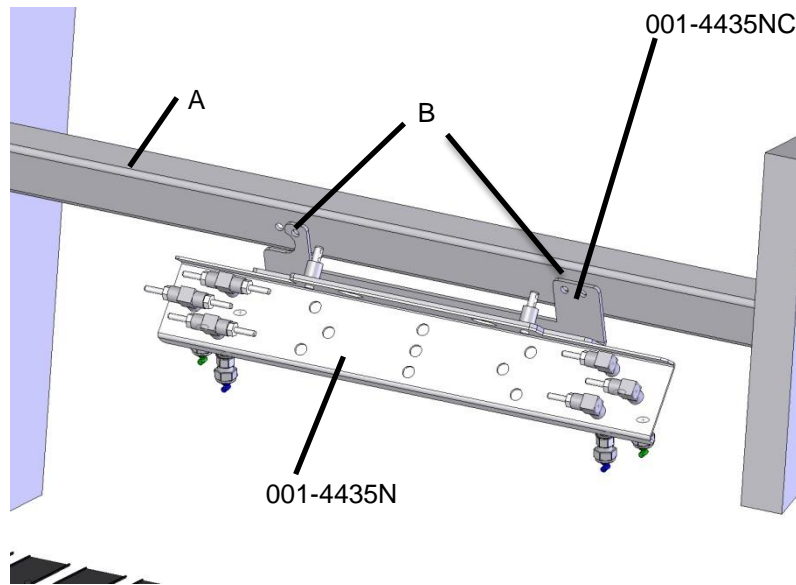

Figure 11
1. Locate the baler cross member directly above the rotor. Figure 11, Point A
2. Locate the four pre-drilled holes on the cross member. Figure 11, Point B